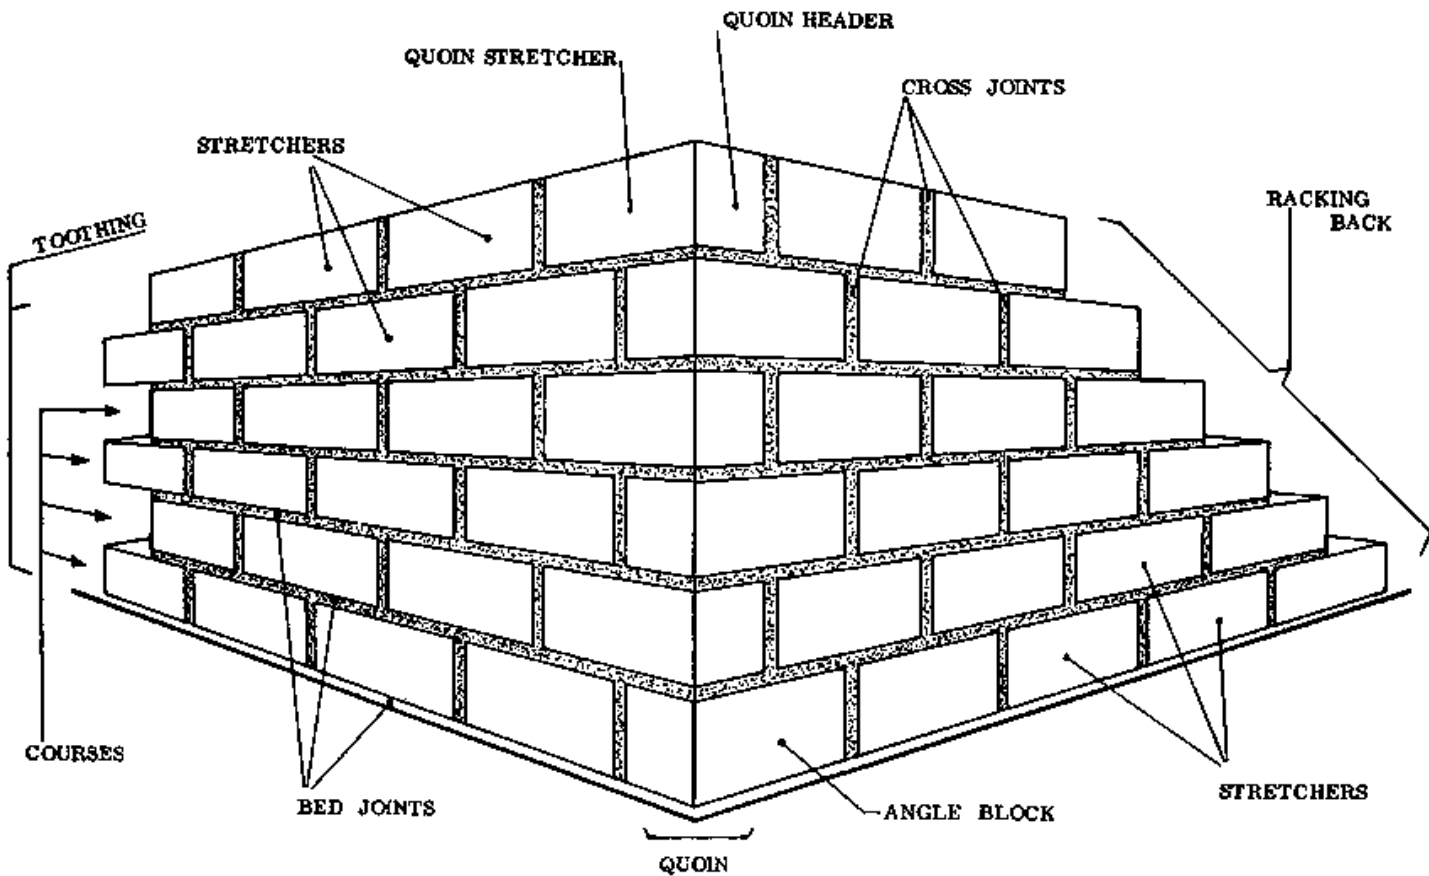

Fig. 1
– HEADER: A block is known as a header when it is placed in a wall so that its smallest face is exposed (Fig. 1, next page).
– STRETCHER: If the biggest face of a block is exposed, the block is called a stretcher (Fig. 1, next page). This is the way most blocks are laid in Rural Building, and we say that the block is laid edgewise. If a block is laid flatwise, so it is actually showing the top face, it is also called a stretcher (Fig. 1, next page).
– COURSE: This is the term applied to each layer or row of blocks, with the bed joint included (Fig. 1, next page).
- BED JOINT: This is the horizontal mortar joint between two courses (Fig. 1).
- CROSS JOINT: The vertical joints between the blocks (Fig. 1).
- QUOIN: The quoin is the outside corner of a wall or the external angle on the face side of the wall (Fig. 1).
- ANGLE BLOCK: This is the block which actually forms the corner in each course (Fig. 1).